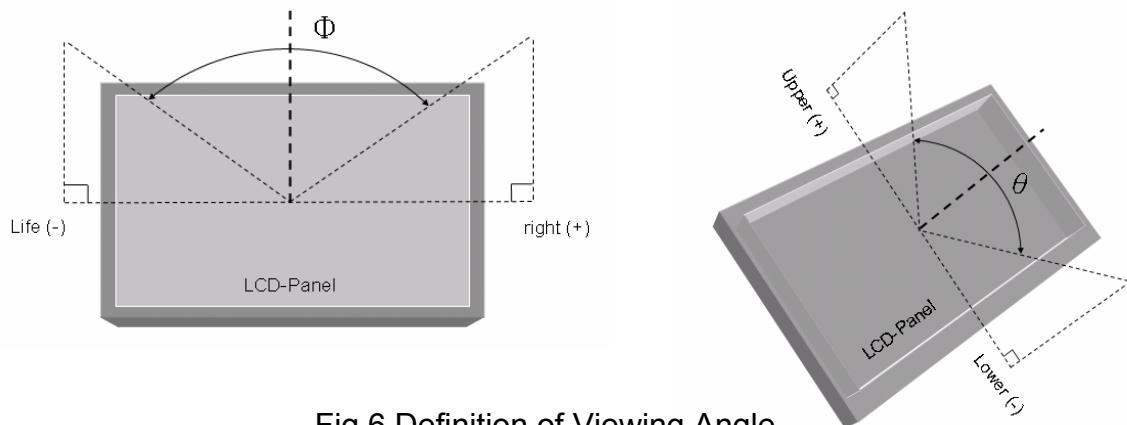

Fig.6 Definition of Viewing Angle
- Measuring Viewing Angle : Fig.6 : θ=ψ=0°